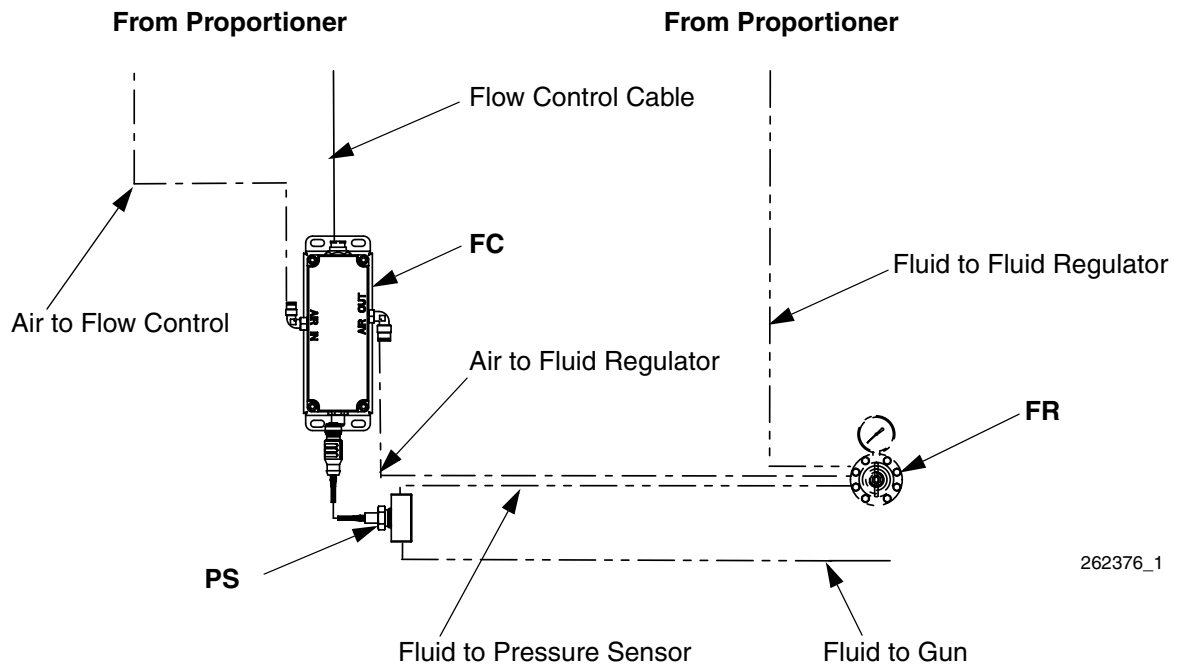

FIG. 2. 24H989 Flow Control Module, with Remotely Mounted Fluid Regulator
The intrinsically safe flow control module (FC) is required to use flow control in your system. It is for use with a remotely mounted, air-operated fluid regulator (FR, not included). See FIG. 2.
1. Connect a 1/4 in. (6 mm) OD air supply line to the air inlet fitting of the flow control module (FC). Connect the other end of this line as follows:
2. Connect a 5/32 in. (4 mm) OD air supply line to the air outlet fitting of the flow control module (FC). Connect the other end of this line to the air inlet fitting of a remotely mounted fluid regulator (FR).
3. Connect a fluid line from the proportioner to the fluid inlet of the remote fluid regulator (FR).
4. Connect a fluid line from the outlet of the fluid regulator (FR) to the 1/8 npt(f) inlet of the pressure sensor (PS).
5. Connect a fluid line from the 1/8 npt(f) outlet of the pressure sensor (PS) to the spray gun inlet.
6. Connect the pressure sensor cable to the cable connector on the flow control module (FC).
7. See the **Electrical Schematic** in your ProMix instruction manual. Connect the flow control cable to the fluid station control board and to the cable connector on the flow control module (FC).